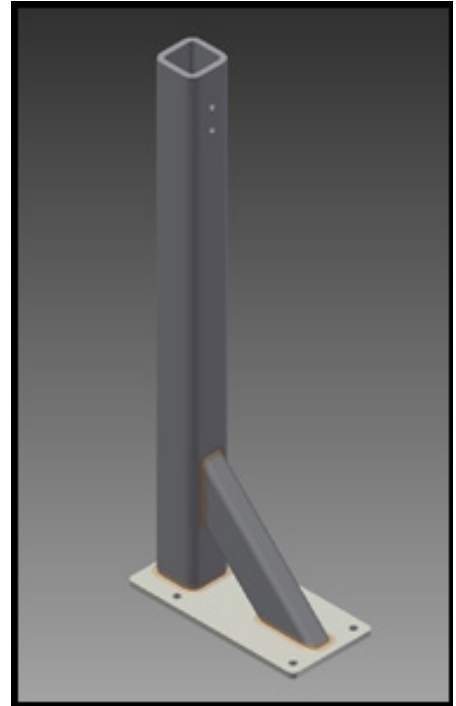

Figure 11-1
**1. Which support to use for yor application?** Use when there is no wall present at the lower landing. *[Figure 11-1]*